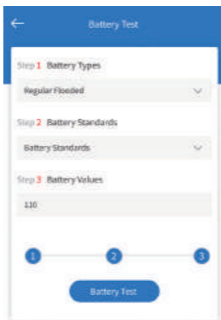

Figure 4.1.4
4. Input the battery capacity value and tap Battery Test to start the test (See figure 4.1.4).